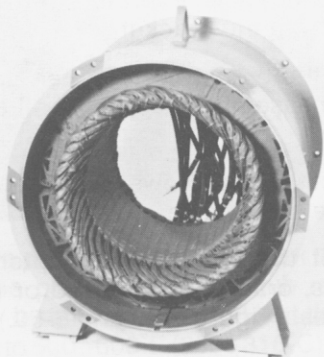

FIGURE 6-51
1. Clean dust and dirt from the stator frame and winding. (Figure 6-51.) (See section 5.)